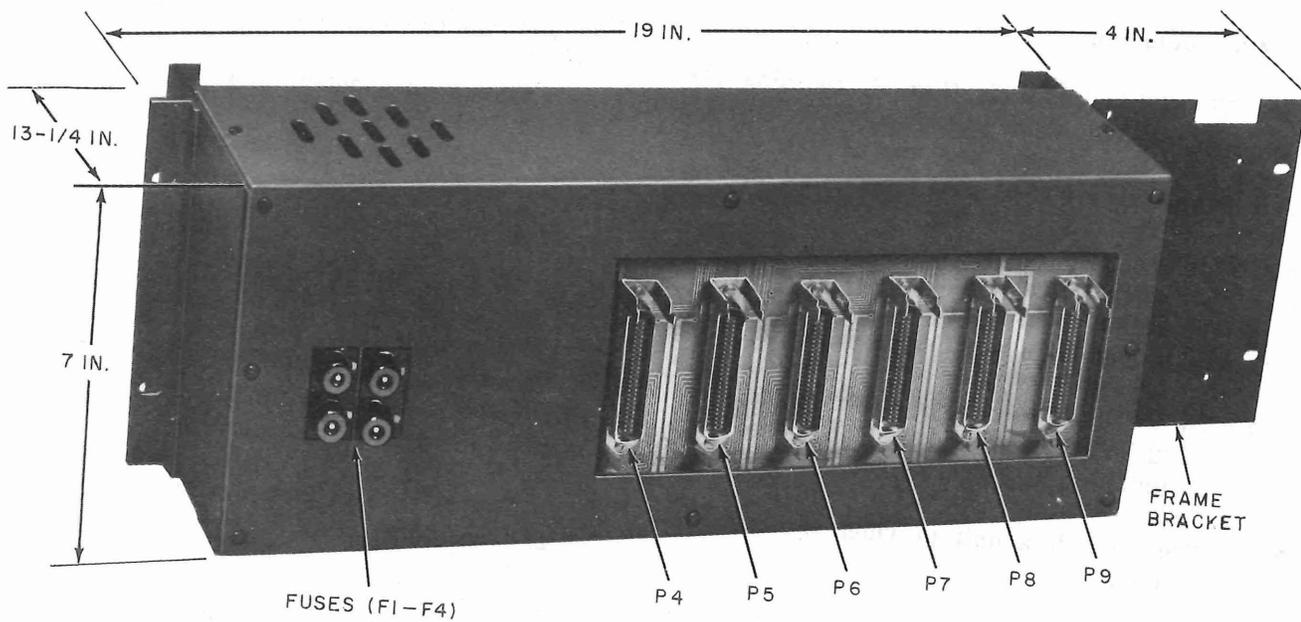

Fig. 4—48D1 Data Unit
**2.11** The 48D1 data unit (Fig. 4) provides an interface adapter for use with a 46B1 and/or a 46C-type data mounting to concentrate control of 48A1, 48B1 or 48ER1, and 48C1 data units in an 18- or 30-button CALL DIRECTOR key telephone set. The 48D1 data unit can be mounted on 19- or 23-inch relay racks.